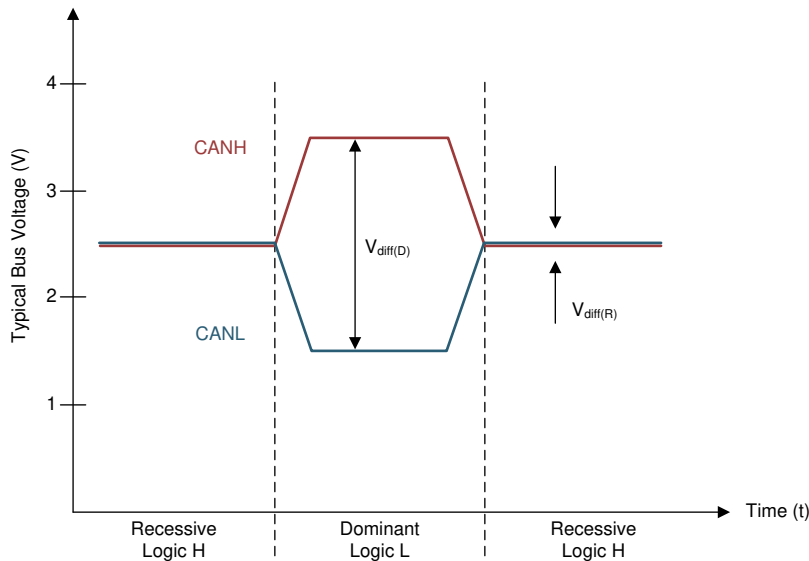
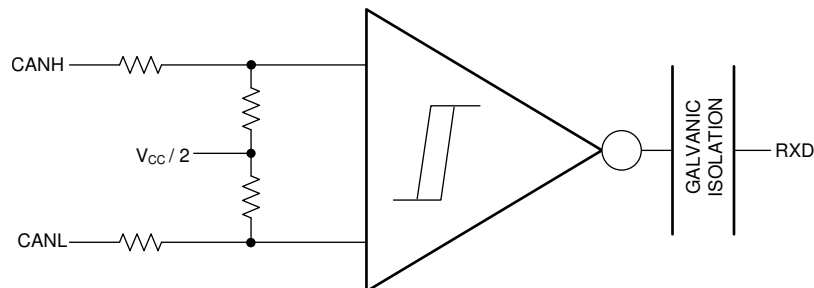

Figure 7-1. Bus States (Physical Bit Representation)
Figure 7-2. Simplified Recessive Common Mode Bias and Receiver
The CAN bus has two states during operation: *dominant* and *recessive*. A dominant bus state, equivalent to logic low, is when the bus is driven differentially by a driver. A recessive bus state is when the bus is biased to a common mode of $V_{CC} / 2$ through the high-resistance internal input resistors of the receiver, equivalent to a logic high. The host microprocessor of the CAN node uses the TXD pin to drive the bus and receives data from the bus on the RXD pin. See Figure 7-1 and Figure 7-2.
- (1) H = high level, L = low-level, Z = common mode (recessive) bias to $V_{CC} / 2$. See Figure 7-1 and Figure 7-2 for bus state and common mode bias information.